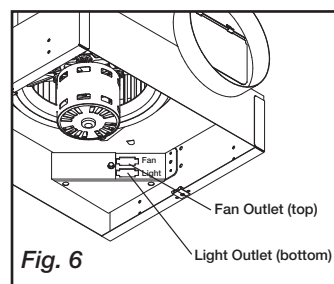
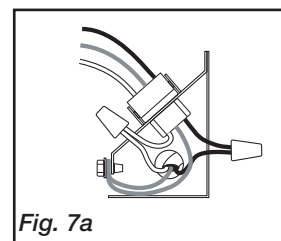
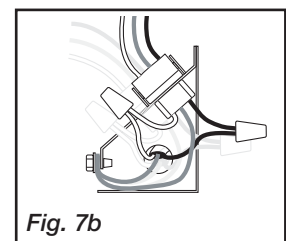

Fig. 6
Fig. 7a
Fig. 7b
1. If installed, remove wiring cover. If fan/light combination is being used, make sure the fan plug is connected to the fan receptacle and the light plug is connected to the light receptacle, shown in Fig. 6. Using proper wire connectors, wire the fan as shown in Fig. 7a. For wiring of light proceed to Fig. 7b.